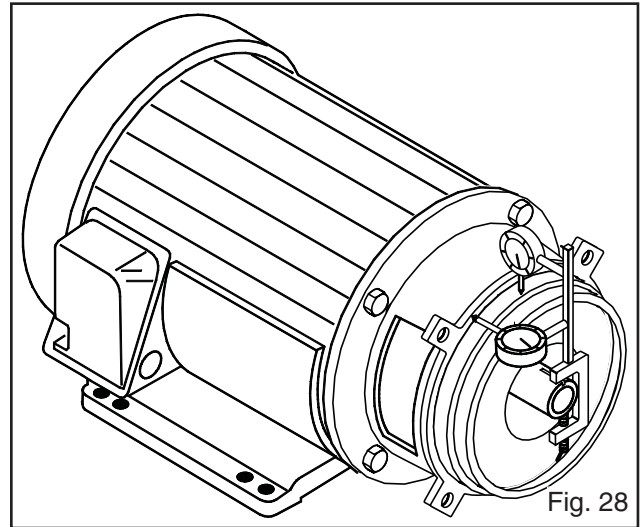

Fig. 28
5. Install motor adapter (504) onto motor. Align bolt holes with those on motor.
7. Install seal chamber (184) on motor adapter (504) using two hex cap screws (370B).
8. Check seal chamber cover run-out (Figure 28). Rotate indicator through 360 degrees. If TIR is greater than 0.015 in. determine cause and correct before proceeding.
**NOTE:** Care should be taken not to contact stationary seat of mechanical seal, which is pressed onto the seal chamber/adapter (184).
9. Install seal chamber/adapter (184) onto motor. Align bolt holes with those on motor.
11. Check seal chamber cover run-out (Figure 28). Rotate indicator through 360 degrees. If TIR is greater than 0.010 in. determine cause and correct before proceeding.